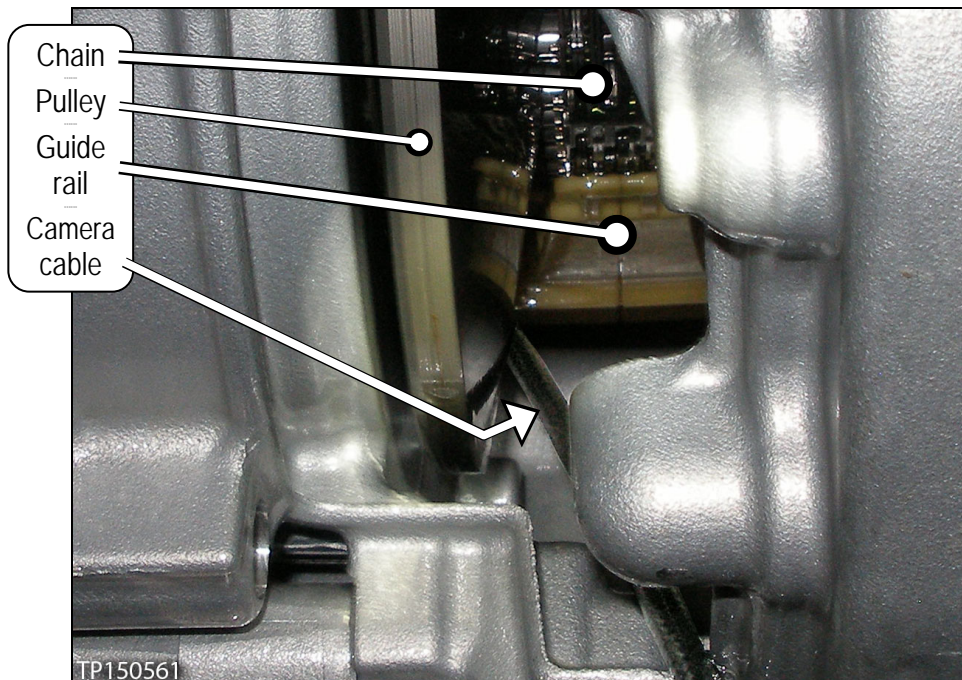

Figure 8
- Figure 8 shows where to insert the camera lens on the passenger side of the chain.